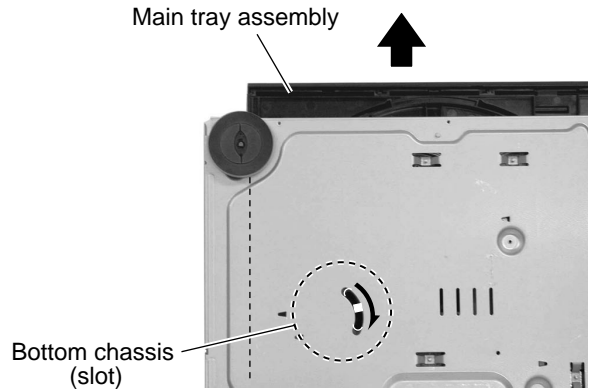

Fig.4
(See Fig.4 to 7)**
1. Turn over the body and insert a screwdriver into the slot of the bottom chassis, then move it in the direction of the arrow in Fig.4. The main tray assembly will move forward.